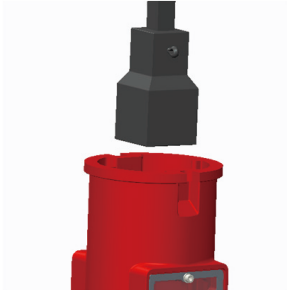

Figure 12
2.10 Put the stem and socket assembly into the indicator body (see Figure 12), place the socket on the square operating nut of the gate valve, and ensure that the socket and the square operating nut are engaged.